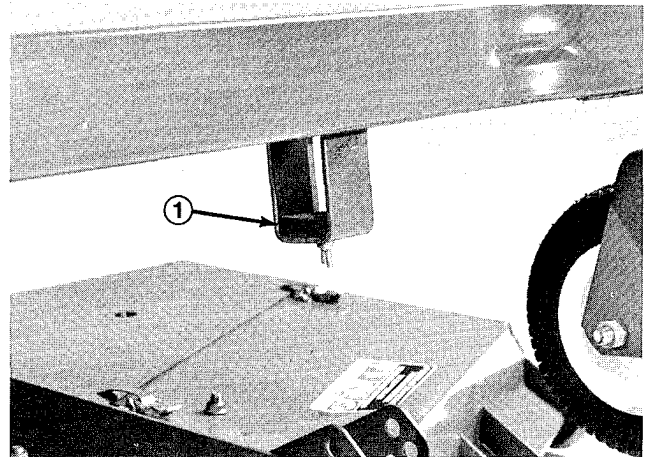

Figure 14
10. Check to make sure front height—of cut pins are resting properly on frame cushions (Fig. 14). If pins are not resting properly, place a shim or shims under cushion to raise it for proper alignment.